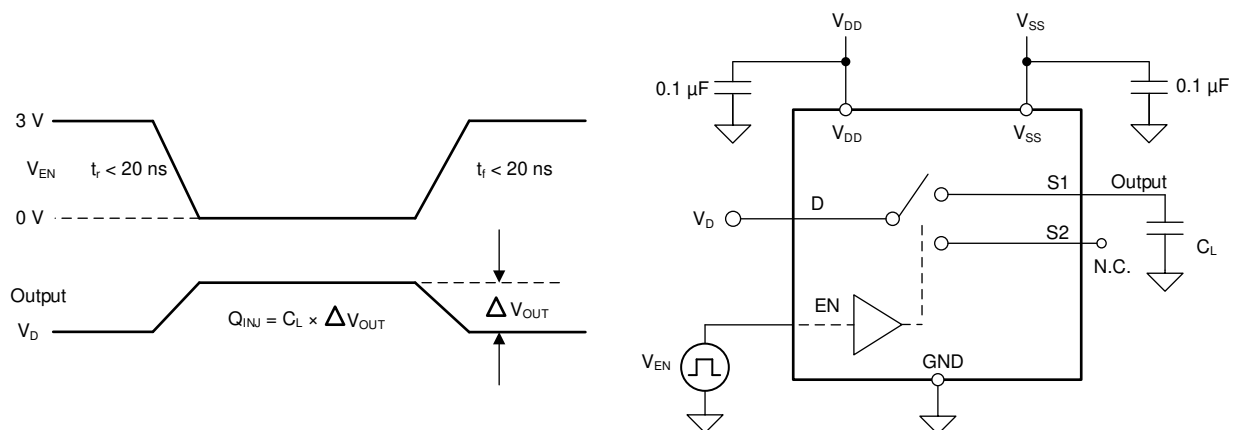

图 6-9. Charge-Injection Measurement Setup
The TMUX6219 has a transmission-gate topology. Any mismatch in capacitance between the NMOS and PMOS transistors results in a charge injected into the drain or source during the falling or rising edge of the gate signal. The amount of charge injected into the source or drain of the device is known as charge injection, and is denoted by the symbol Q_C . 图 6-9 shows the setup used to measure charge injection from source (Sx) to drain (D).